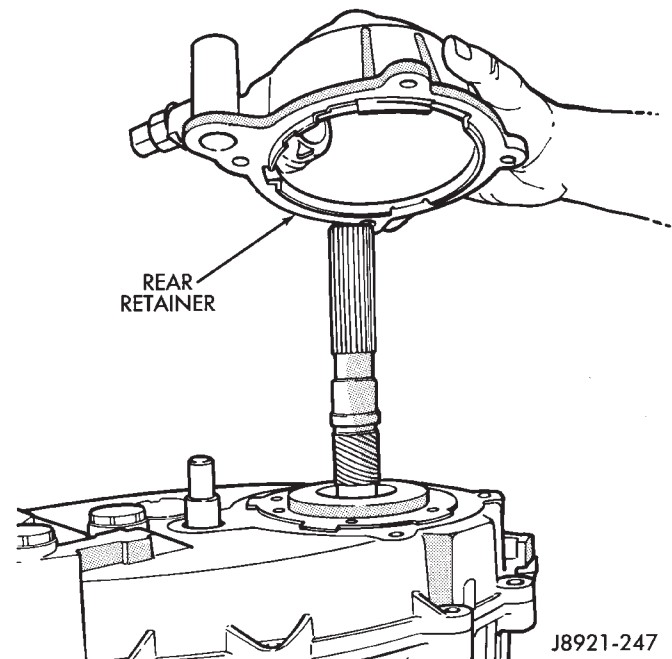

Fig. 9 Remove Rear retainer
- (9) Lift rear retainer up and off case and mainshaft (Fig. 9).